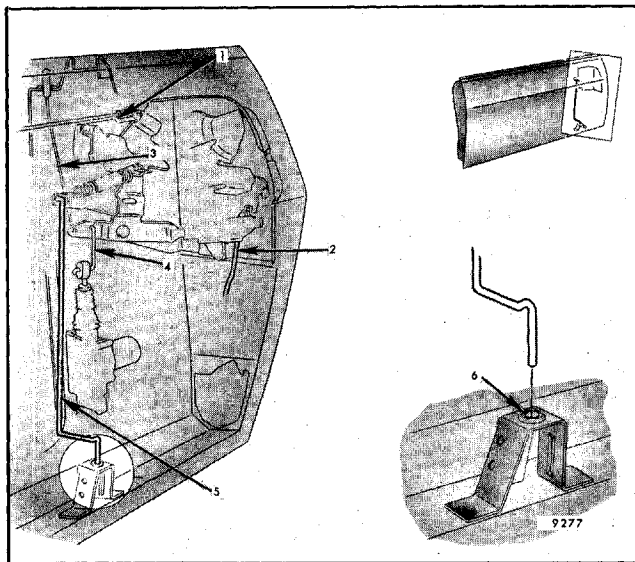

Fig. 7-136 - Right Upper Lock Connecting Rods
2. Disconnect from the right upper lock assembly all rods (Fig. 7-136).